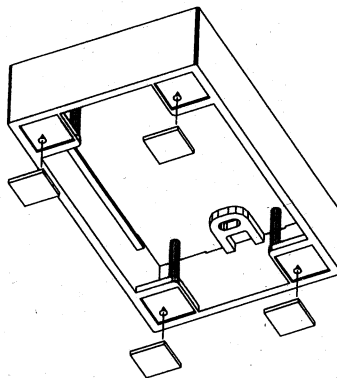

Figure 1
1. Adhere the double sided tape squares (included) to the pads at the back of the cable manager as shown in Figure 1. Use the tape to *temporarily* mount the manager to the wall.* Ensure that the elongated mounting holes of the manager align with the mounting holes of the electrical box using the one inch screws which are provided with the manager. Do not mount the manager with the screws at this time.